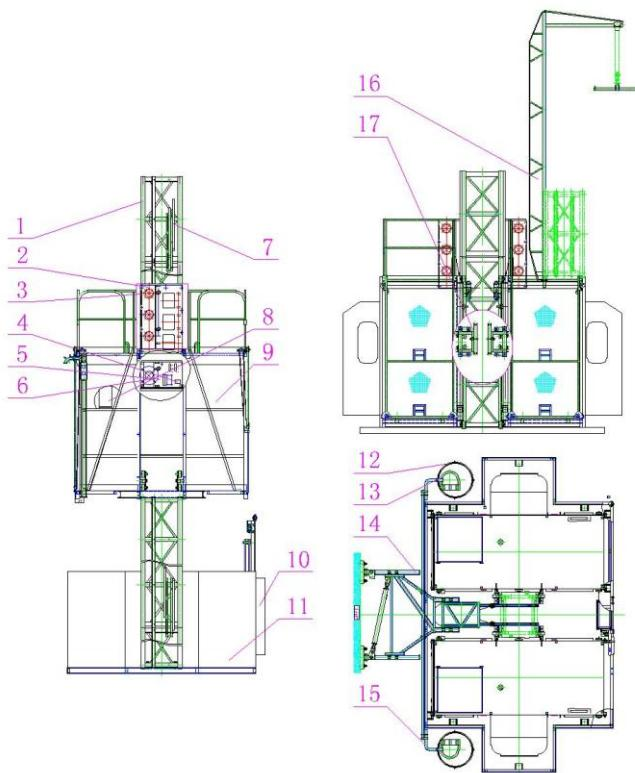

Figure 1 SC series Construction hoist
4.2.4 The foundation is must be pouring concrete and in strict accordance with the size and position of instructions.(figure 1)